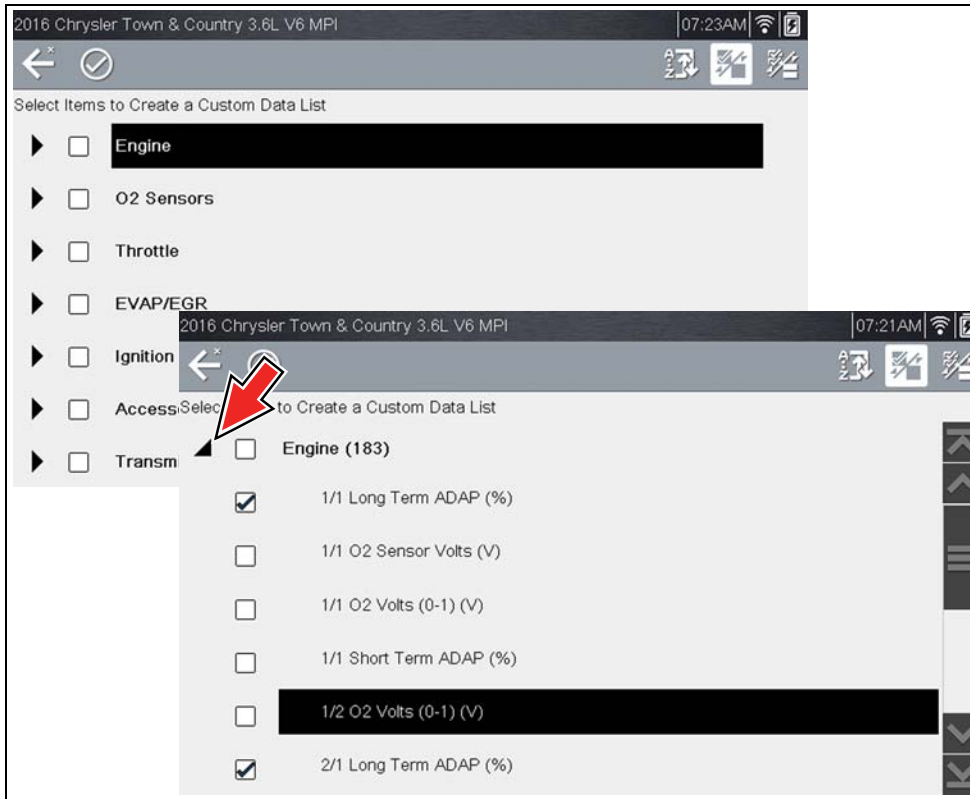

Figure 6-19
2. The data selection screen displays (*Figure 6-19*). Each list item is expandable, by selecting its Expand icon (*Figure 6-19*). You can expand any item from the list and select which PIDs you want to include, and then collapse the list and choose another if desired. The check marks to the left of the parameter description indicate which parameters are selected for display.